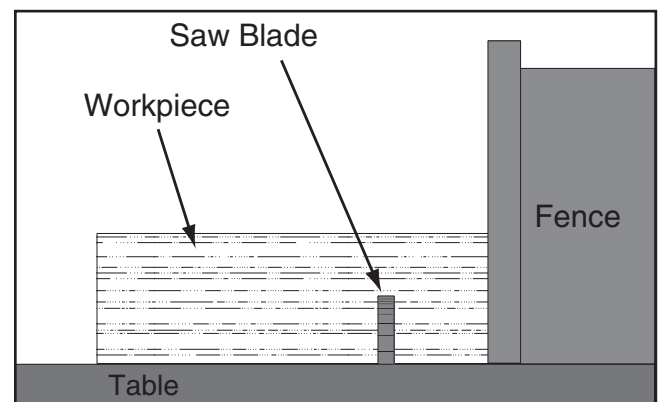

Figure 52. Rabbet cutting with a standard blade.
5. Adjust the fence so the blade is aligned with the inside of your rabbet channel as shown in **Figure 52**.